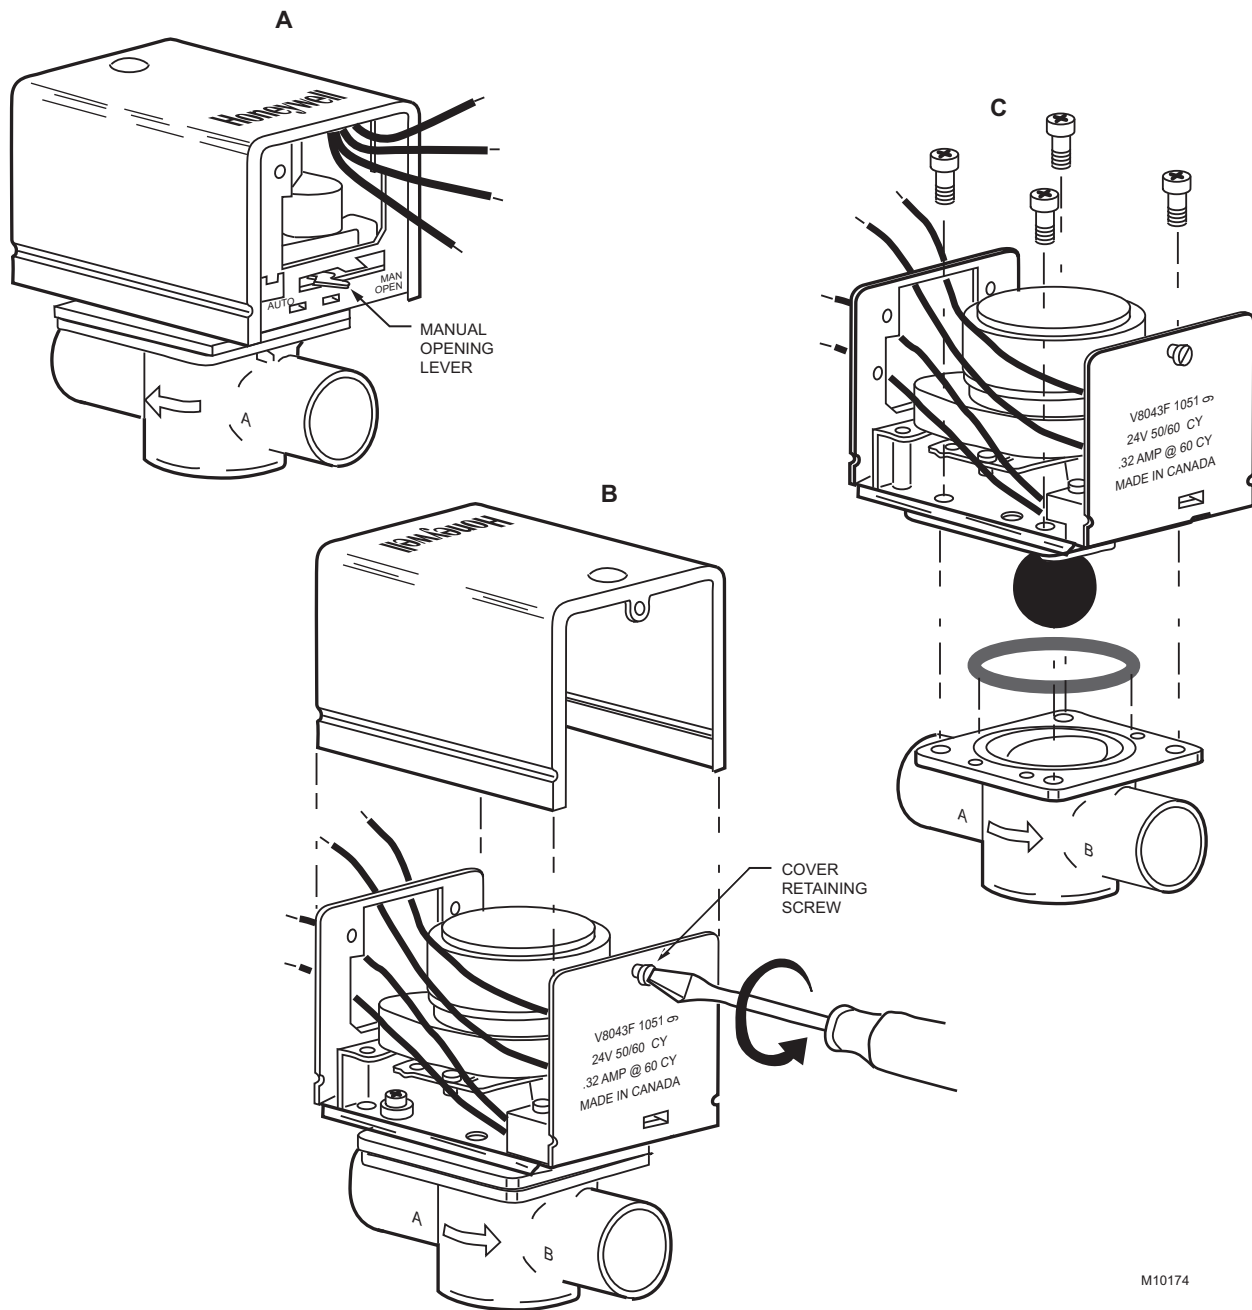

Fig. 10. Remove old powerhead from systems using old style valve bodies
4. Remove the old powerhead from the valve body (Fig. 10)